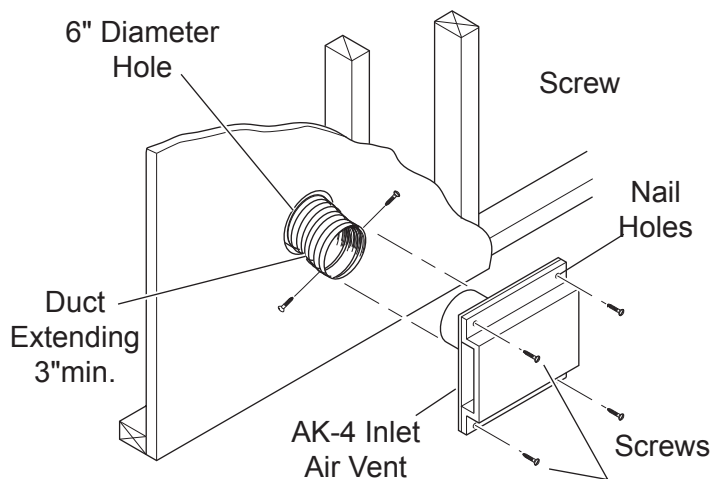

Figure 15 - Combustion Air Assembly for Model No. OAC-4
3. Cut a 6" diameter opening for model OAC-4 in the outside wall covering where the outside vent is to be located. *See Figure 15.*
5. If using insulating duct, push the insulation back from one end of the duct approximately 2". *See Figure 15.*